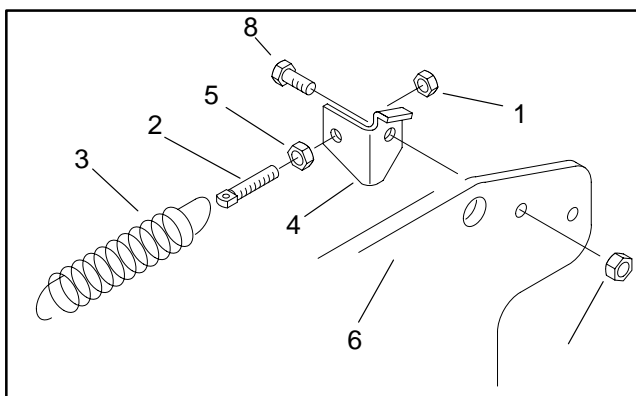

Figure 37
B. Remove lock nut securing the pin and extension spring to the spring bracket. Do not unscrew jam nut from the pin. Release pin from the bracket. Remove spring from neutral arm (Fig. 37).
C. Remove spring bracket from the pump plate (Fig. 37).
B. Secure spring bracket to the pump plate with cap screw and lock nut (Fig. 37).
C. Install spring to neutral arm and pin. Insert pin into the spring bracket. Secure pin and to the spring bracket with lock nut (Fig. 37).